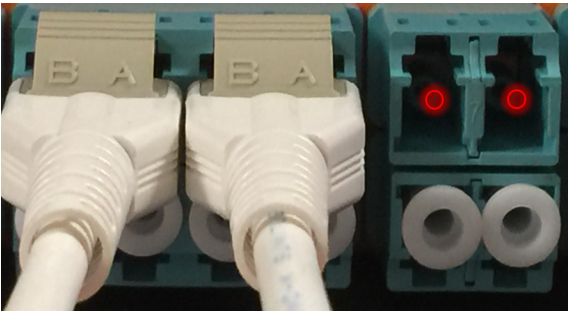

Figure 9: Red Light Passing to the First and Second LC Connectors
- b. Verify light is passing to the TAP’s second LC monitor connection as shown in Figure 9: Red Light Passing to the First and Second LC Connectors.